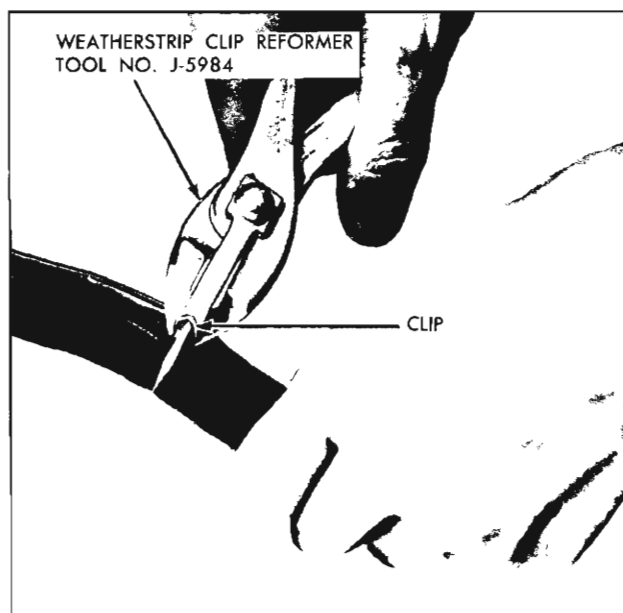

Fig. 38—Reforming Weatherstrip Clips
1. Check weatherstrip attaching clips for proper contour and reform, if necessary, using clip reforming tool J-5984 (fig. 38).
1. Check all weatherstrip attaching clips for proper contour and reform, if necessary, using clip reforming tool J-5984 (fig. 38).